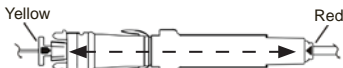

Figure 3: Applicator alignment in probe
9. Advance the Applicator to align the Yellow Indicator with the red arrow of the biopsy probe. Refer to Figure 3.